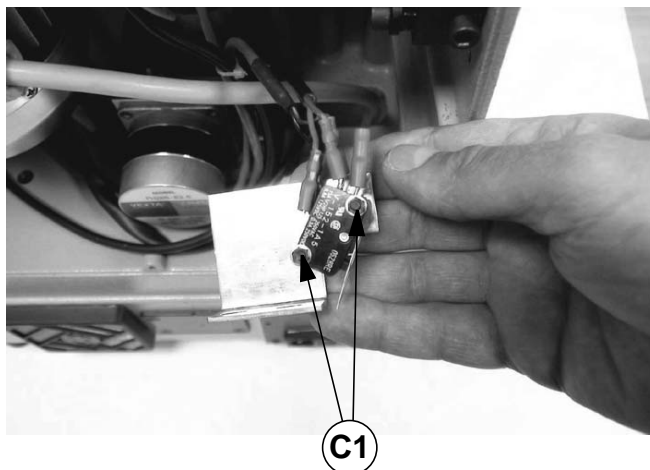

Fig. 53
- 4) loosen the two nuts (D1fig. 53) and replace the faulty part.
- 7) adjust the position of the microswitch plate until you hear the microswitches click when the protective shield (V) is moved.